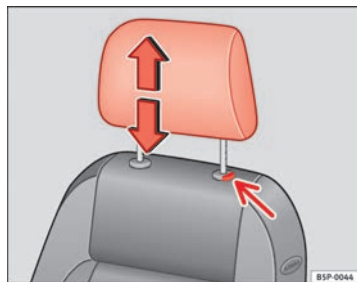

Fig. 93 Adjusting and removing the head restraints
- Press the button ⇒ Fig. 93 (arrow).